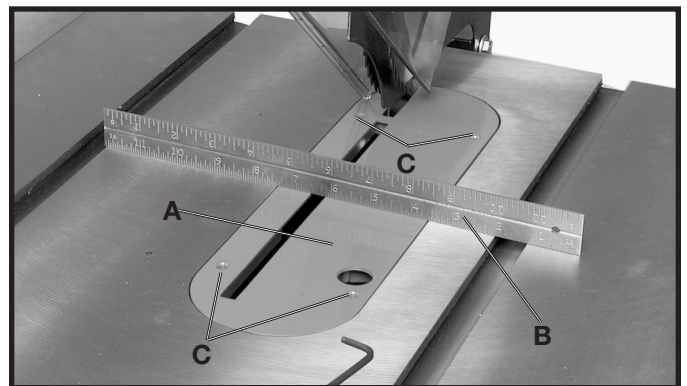

Fig. 31
14. Place a straight edge (B) across the table at both ends of the table insert as shown in Fig. 31.